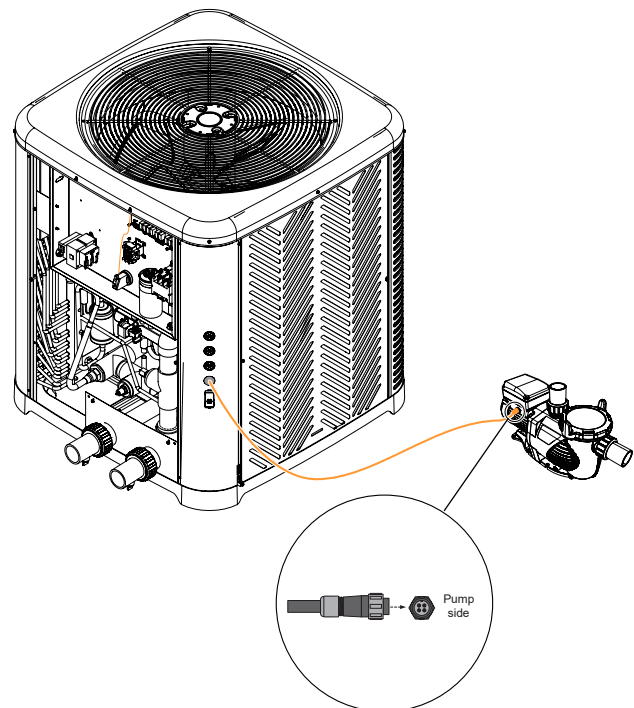

Figure 138. Keyed Circular Connector
2. Connect the keyed circular connector of the pump harness to the pump. See **Figure 138**.